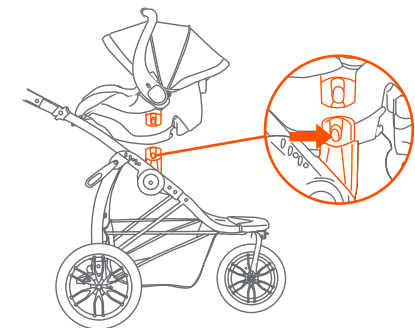

Fig. 23
23) • To take off the seat or the infant car seat, pushing both center buttons on each side of the seat and lifting seat upwards (Fig. 23). **DO NOT** remove with child in the seat.